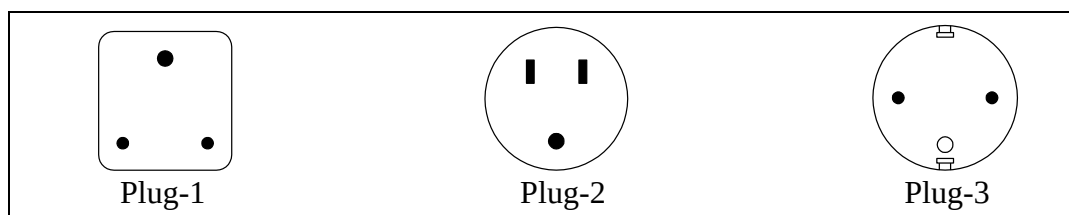

Figure 1. Line-Power Cord Types Available from SES
3. Connect the power cord to a properly grounded three-prong outlet. See Figure 1 for line-power cord types available from SES. Refer to Table 2 for description of the line-power cords.